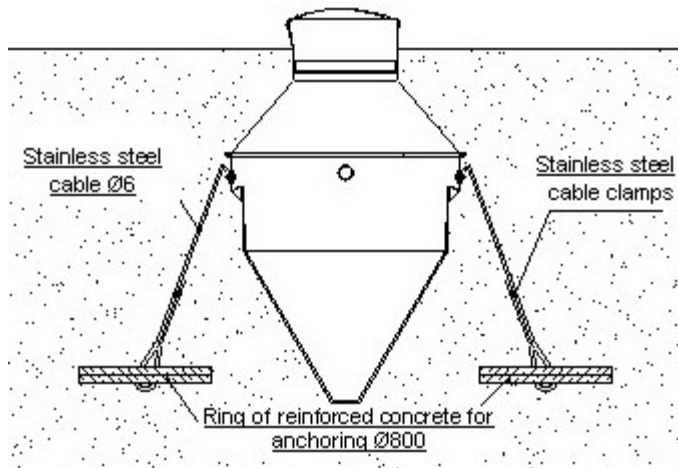

Figure 7
15. In case of high level of ground water, the unit shall be anchored to the foundation of reinforced concrete. Four anchoring options are available (see Fig. 7: a, b). On lowering the anchoring plate, pour about a layer of sand of 10–20 cm thickness and apply a compaction device. Then mount the unit to the anchoring plate.